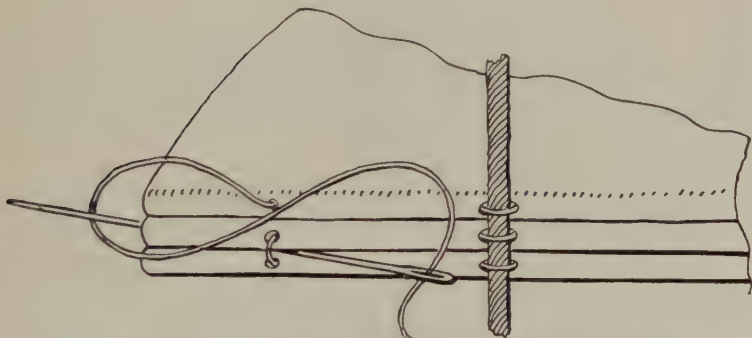

FIG. 172—PROPER METHOD OF MAKING "KETTLE-STITCH"
12. Tie the loose end of thread projecting from (A) of first section sewn, to your continuous thread at (A) of second section.
13. Place your third section, and entering at (A) proceed to sew across as before. When you reach (G) this time, before placing a new section and starting back again, *first* form your kettle-stitch by passing needle and thread *under* the (G) stitch which holds the first and second sections at that point (see Fig. 172). This makes the "kettle" or "lock-stitch," sometimes termed the "catch-stitch."
14. Proceed again and when you reach kettle-stitch (A) again, make your "kettle" stitch as at (G).